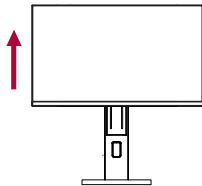

Figure1
1. Before rotating the screen, please lift the screen to the maximum height according to Figure 1.